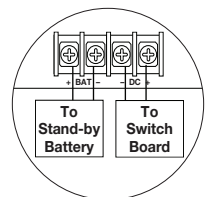

Fig. 3
5. **Battery Backup** (if desired): Connect one (1) 12V LiFePO₄ (**Lithium Iron Phosphate**) battery to terminals marked [+ BAT -] (Fig. 3, pg. 4), carefully observing polarity.